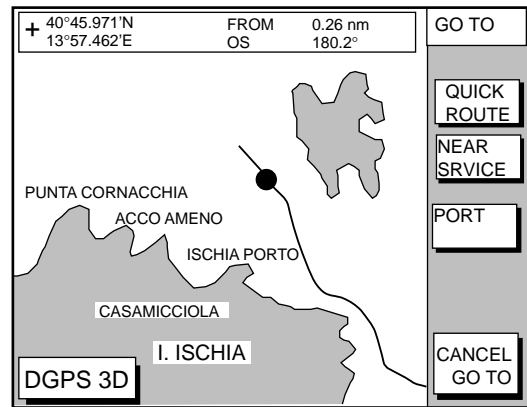

Figure 8-2 Plotter display
6. Press the soft key GO TO. Soft key titles change as in Figure 8-2.